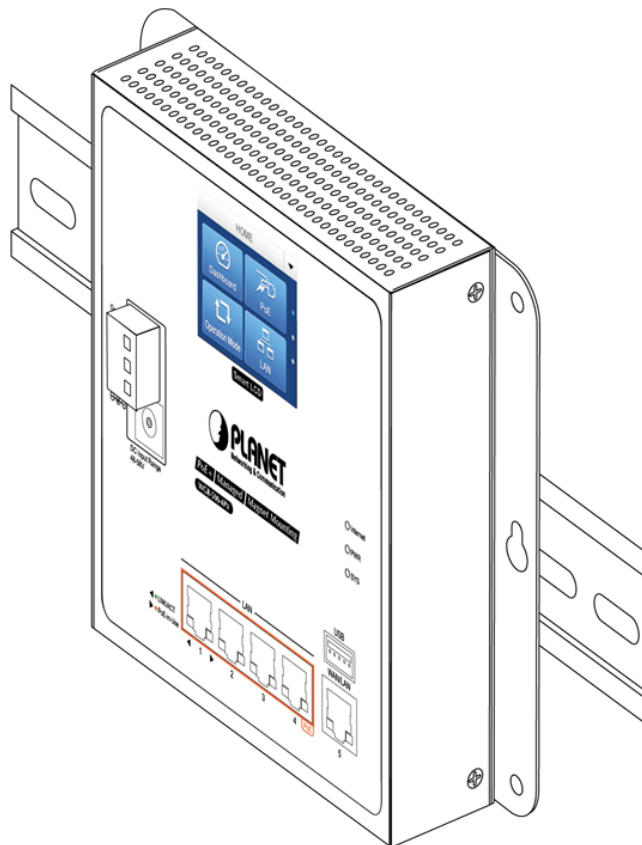

Figure 2-17: Router is tightly fixed on the track
Step 3: Router is placed on the track as shown in Figure 2-17